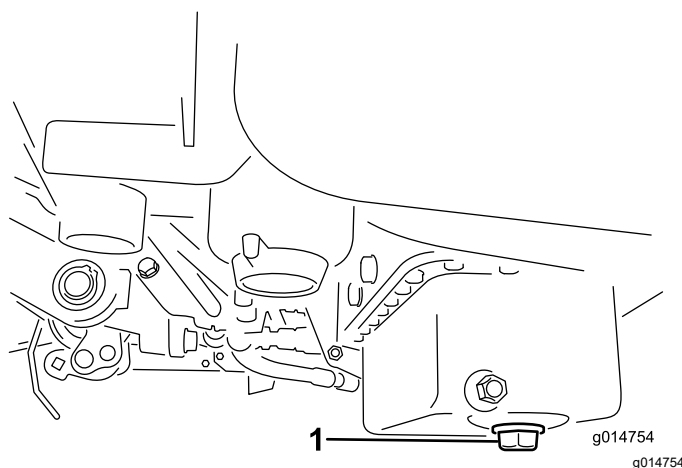

Figure 41
1. Remove the drain plug and let oil flow into a drain pan. When the oil stops, install the drain plug (Figure 41).